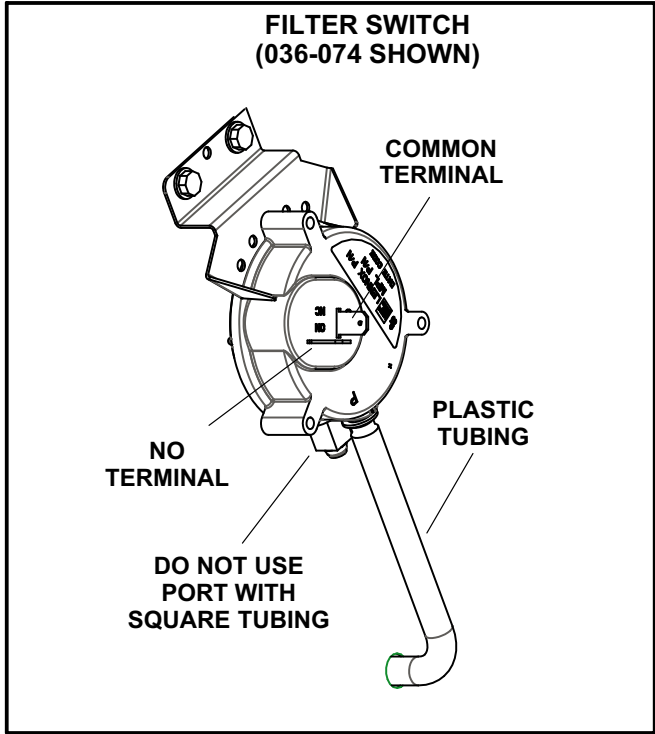

FIGURE 5
- 3- Connect one end of plastic tubing to the filter switch port. See figure 5. On 420-600 units, cut the 30" tubing (provided) to 18-1/2 ".
- 5- Locate wires marked S27-C and S27-NO hanging near filter switch. Connect wire marked S27-C to the switch common terminal. Connect wire marked S27-NO to the switch NO terminal. See figure 5.